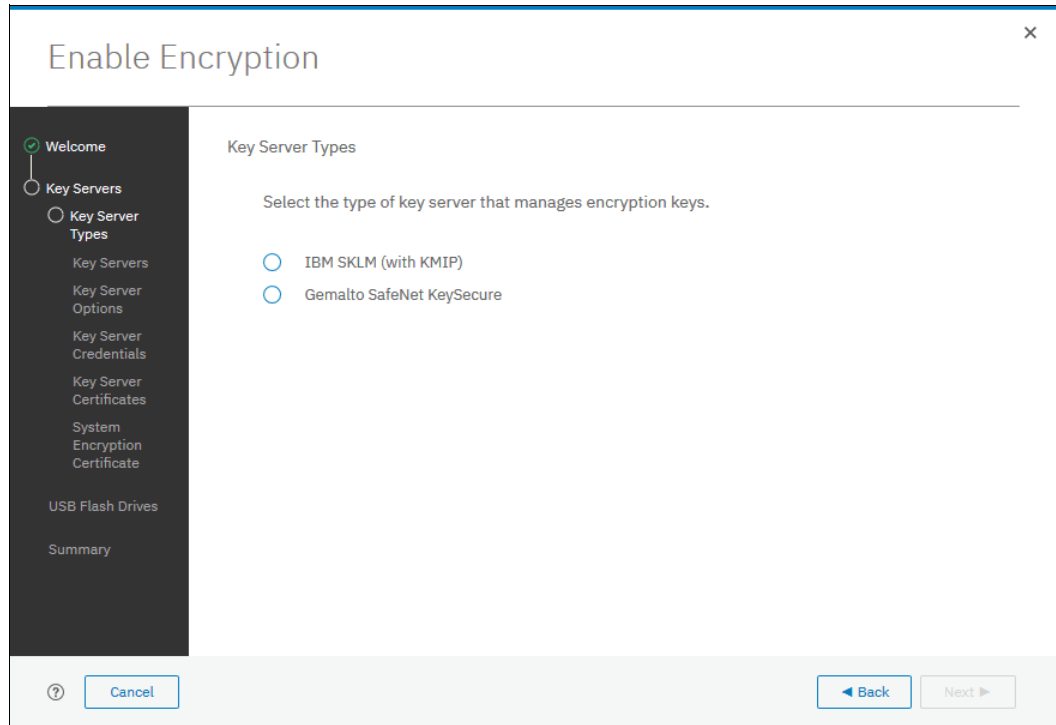

Figure 13-51 Selecting the key server type
3. The wizard moves to the Key Server Types window, as shown in Figure 13-51. Then, select the key server type that will manage the encryption keys.